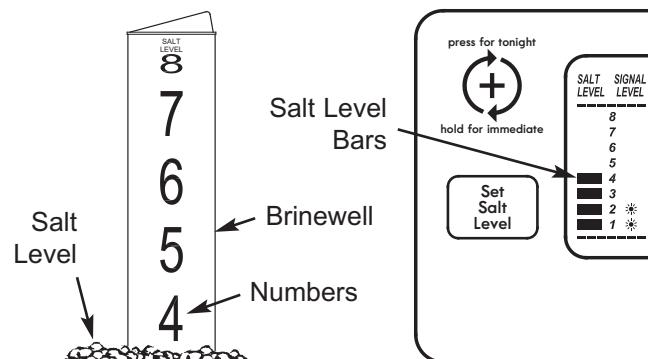

FIG. 26
2. The salt level scale, on the brinewell inside the tank, has numbers from 0 to 8 (see Fig. 26). Observe the highest number the leveled salt is at, or closest to.
3. Press the SET SALT LEVEL button as many times as necessary to make the salt level bars in the display (see Fig. 26) match the number on the brine-well. At level 2 or below, the Status Light will flash (See Page 13).